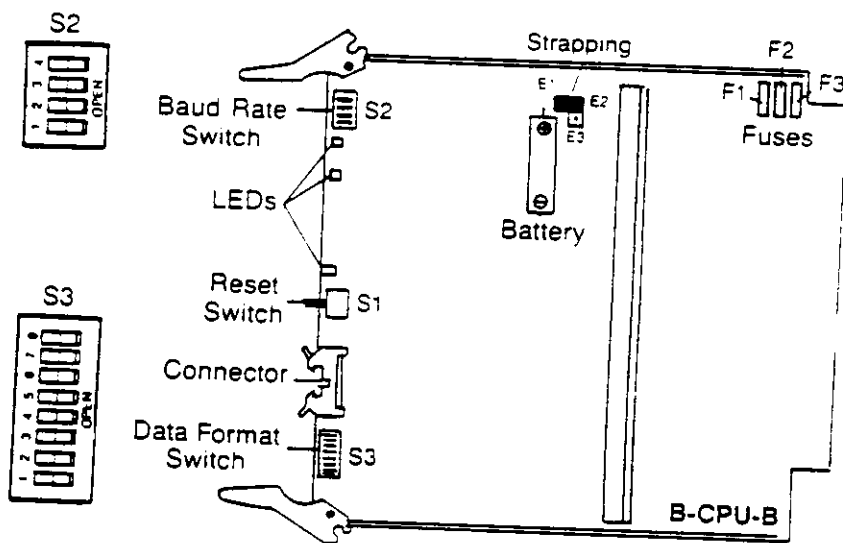

Figure 5-10 RESET, BAUD RATE AND SERIAL DATA SWITCH LOCATION, EK-824/1232/1648
3.23 Before the B-CPU-B PCB (Figure 5-10) is installed in the KSU (and before the system is programmed), the Baud Rate Switch (S2) must be set to match the baud rate of the programming terminal, and the Serial Data Switch (S3) must be set for data format compatibility.
- To set the switches, refer to Figure 5-10.
CAUTION: MAKE SURE THE B-CPU-B PCB IS STRAPPED FROM E1 TO E2 (FIGURE 5-10). IF THE PCB IS NOT STRAPPED E1 TO E2 THE SYSTEM WILL INITIALIZE EACH TIME POWER IS TURNED ON OR OFF. INITIALIZATION RETURNS ALL PROGRAMMED ENTRIES TO DEFAULT.